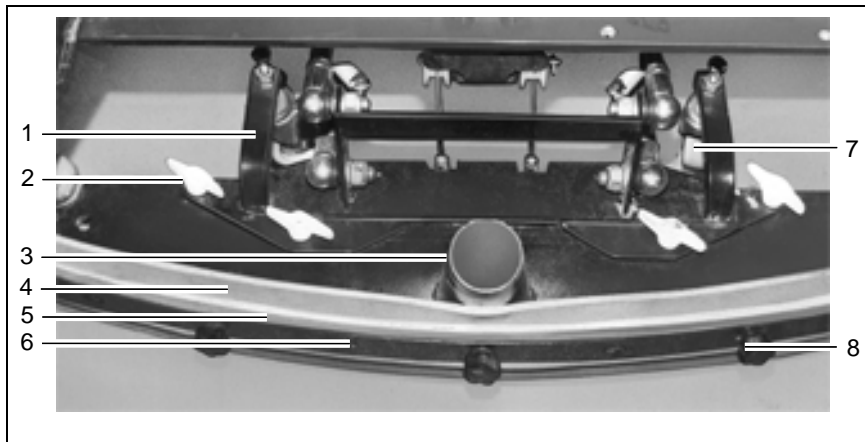

Fig. 34
5. Pull the suction hose from the connection nozzle (Fig. 34/3) of the squeegee.
6. Loosen the wing nuts (Fig. 34/2) on the holding attachment.
The sealing strips (Fig. 34/4) can be changed without the need for any tools:
2. Unscrew the knurled nuts (Fig. 34/8).
3. Remove the sealing strip, support strip and clamping rail (Fig. 34/4-6).
The squeegee stands with the sealing strips (Fig. 34/4) and support rollers (Fig. 34/7) on the ground. To increase the squeegee contact surface of the sealing strips (Fig. 34/4) on the floor, e.g. following wear of the sealing strips (Fig. 34/4), the support rollers (Fig. 34/7) must be set higher:
3. Adjust the support rollers (Fig. 34/7) on the right and left evenly:
5. Tighten the counter nuts on each support roller (Fig. 34/7).